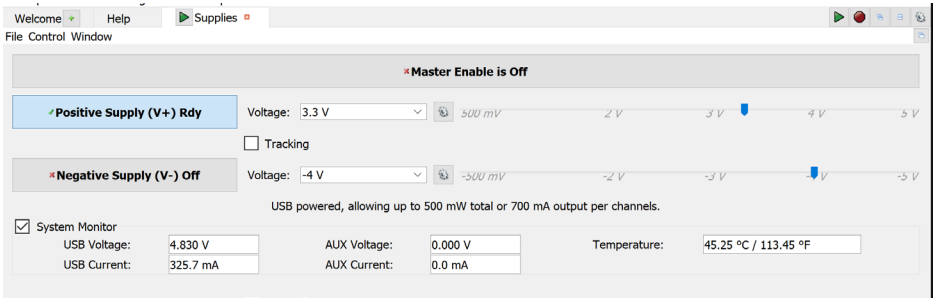

Figure 27: Using DAD Supplies
Power your circuit (DC): The DAD can use the power supplies to power your circuit with 3.3V. Open the Power Supplies and click on “Power Supply (V+) Off” to change it to Rdy as seen in Figure 27. Change the voltage to 3.3V. Click on “Master Enable is Off” to change it to On. To power your circuit, use the red V+ Power Supply wire. Use any of the black ground wires for ground.